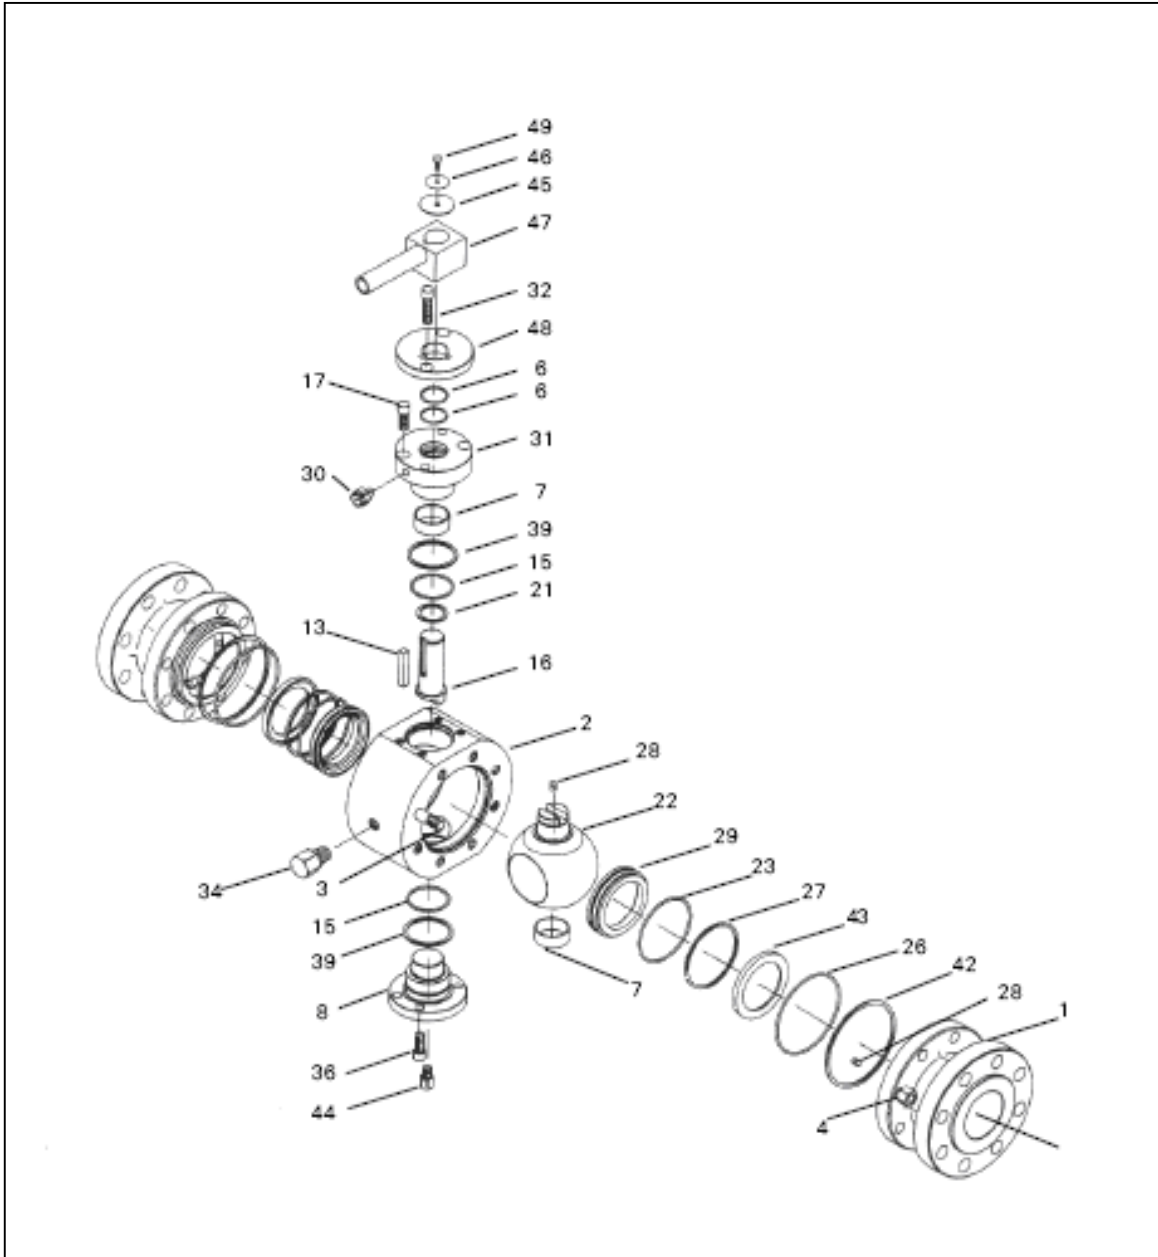

Figure 1
7.2 Lever Operated Valve (See Figure 1)
8.8 Lever operated valves (see figure 1):